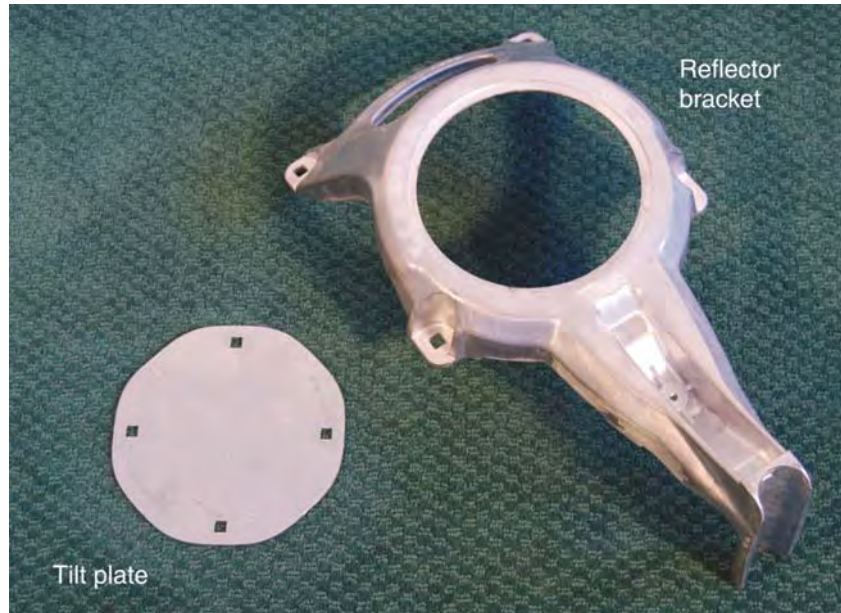

Figure 4: Reflector bracket and tilt plate
**Reflector bracket and tilt plate** The *reflector bracket* supports the antenna reflector. The *tilt plate* allows the reflector to rotate so that it can be adjusted for proper tilt. The reflector bracket and tilt plate attach to the Az/EI mount assembly. Figure 4 shows the reflector bracket and tilt plate.